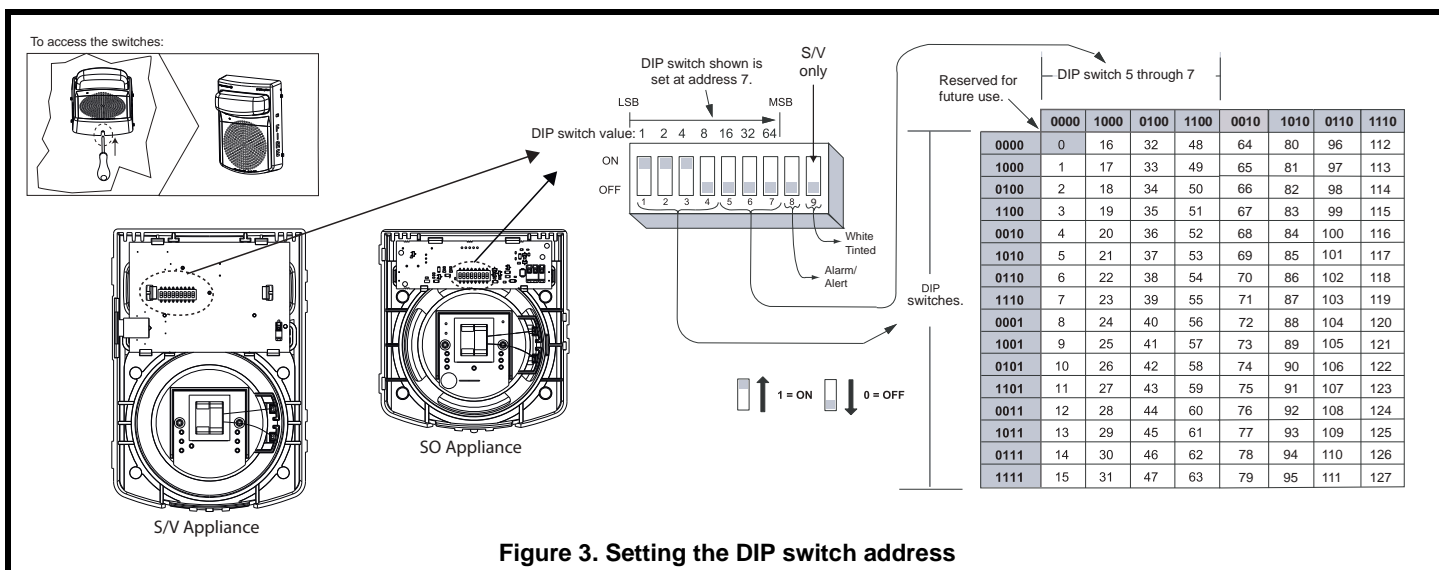

Figure 3. Setting the DIP switch address
1. Unclip the appliance from the backplate by inserting a number 2 Phillips screwdriver, or a similar sized object into the opening at the bottom of the cover. See Figure 3.
4. DIP switch position 8 determines whether this appliance is viewed by the system as an 'ALARM' (OFF) or 'ALERT' (ON) type of appliance. Confirm the setting for the appliance at this address with the FACP system configuration documentation.
5. DIP position 9 selects white flash color (standard - OFF), or tinted strobe power level (ON) for use with add-on domes.